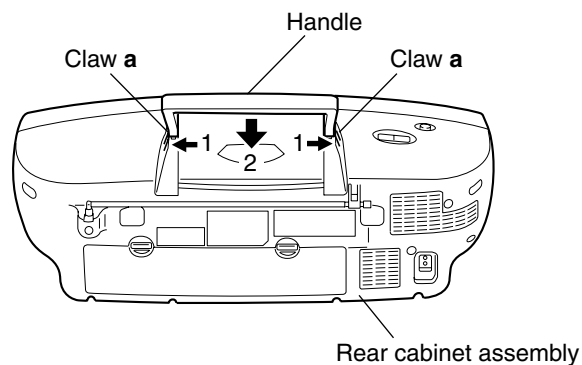

Fig.1
■ Removing the handle (See Fig. 1.)